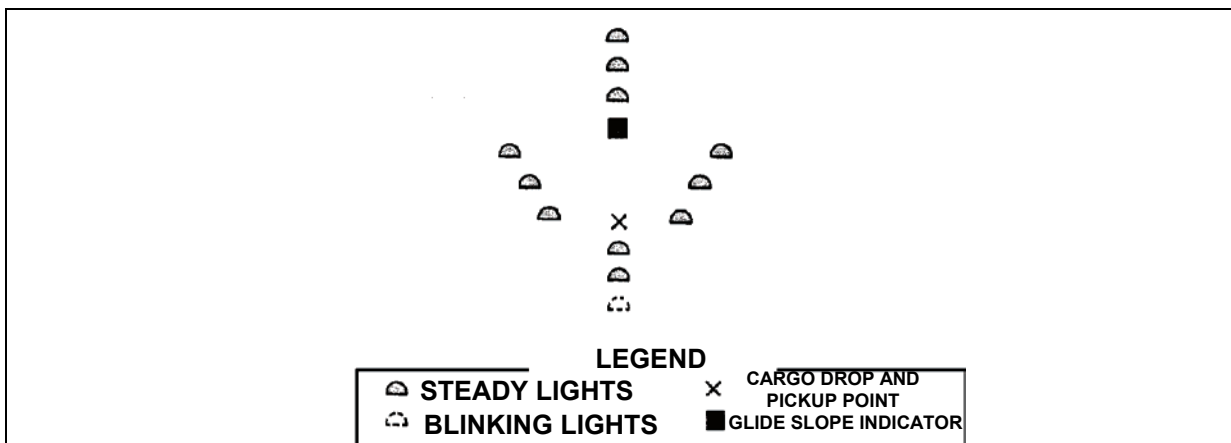

Figure 4-15. GAIL System
- **Glide Angle Indicator Light (GAIL).** (USMC) The GAIL system is used whenever possible (Figure 4-15). The GAIL is positioned to project its beam along the preferred direction of approach. The glide path angle must provide clearance over the highest obstacle along the avenue of approach. Glide path angles from 3 to 8 degrees are common and acceptable. Angles greater than 8 degrees are considered too steep and could cause difficulty in maintaining the aircraft on the glide path. Since the GAIL has a narrow beam width, assist the pilot in finding it by placing additional lights in the landing site. Remember, the preferred direction of approach is into the wind. However, when the landing site size does not allow the glide path to be directed into the wind without exceeding 8 degrees, the GAIL system should be shifted left or right to a glide path of less than 8 degrees. Approach azimuth and glide path angle information are transmitted to the pilot in the briefing. When adjusting the GAIL scope, make sure that it is far enough away from the front marker lights (normally 30 meters) to give the pilot enough distance to maneuver over the landing point. It may be necessary to secure the GAIL scope to the ground using sand bags or tent pins, so that it is not blown over by the helicopter rotor wash.